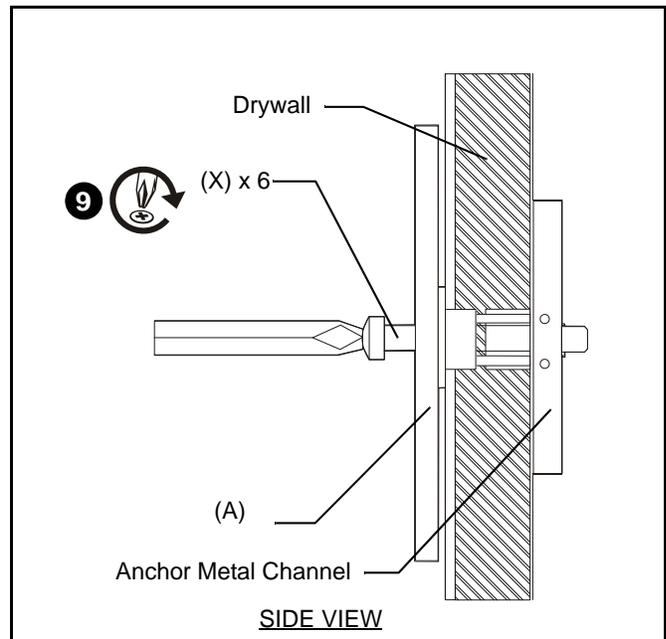

Figure 21
8. Place wall track accessory (A) over anchors and align mounting holes in display mount with holes in anchors. (See Figure 21)
9. Insert 1/4-20 x 1 3/4" Phillips pan head screws (X) through corresponding mounting hole on wall track accessory (A) and into anchor (K) and tighten until flush against mount. DO NOT over-tighten! (See Figure 21)